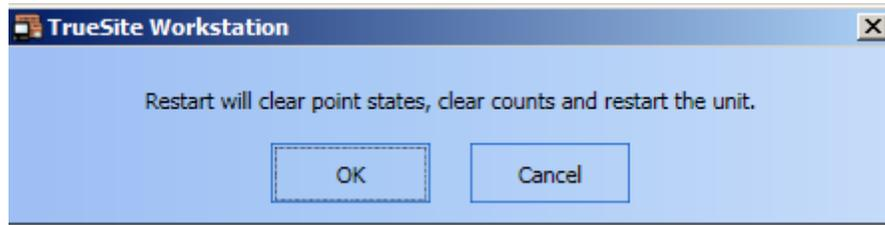

Figure 3-7 Restart Confirmation Prompt
3. The TSW will issue a restart confirmation prompt (shown in Figure 3-7). You confirm your decision to restart the application.